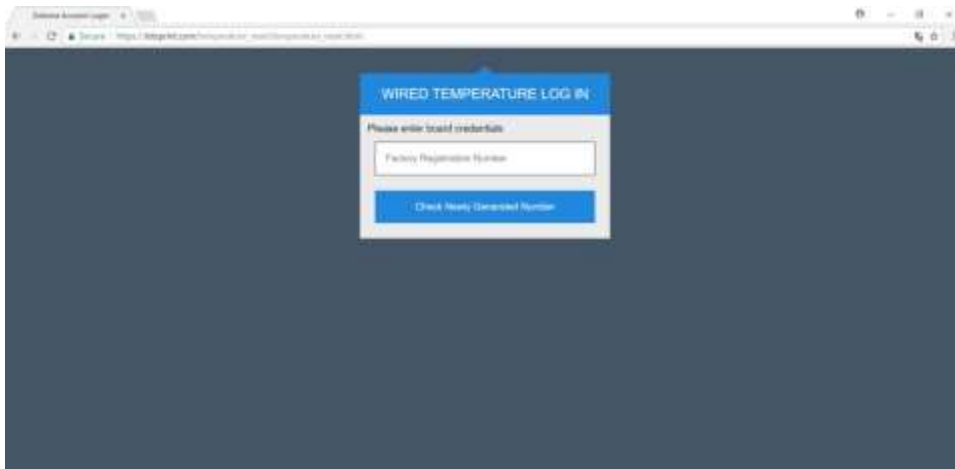

Fig 8.
11. THIS SECTION REFERS TO GENERATING A UNIQUE BOARD NUMBER AS STATED IN SECTION 8 OF THIS DOCUMENT. THE BOARD JUMPER MUST BE PLACED BEFORE THE BOARD IS POWERED. THEN THE ETHERNET CABLE SHOULD BE CONNECTED TO AN INTERNET ENABLED ROUTER BEFORE POWERING UP THE BOARD. THE USER HAS TO WAIT FOR A MINUTE FOR THE BOARD TO CONNECT TO THE SERVER FOR THE FIRST TIME. FROM A BROWSER, THE USER THEN CONNECTS TO (Fig. 8):